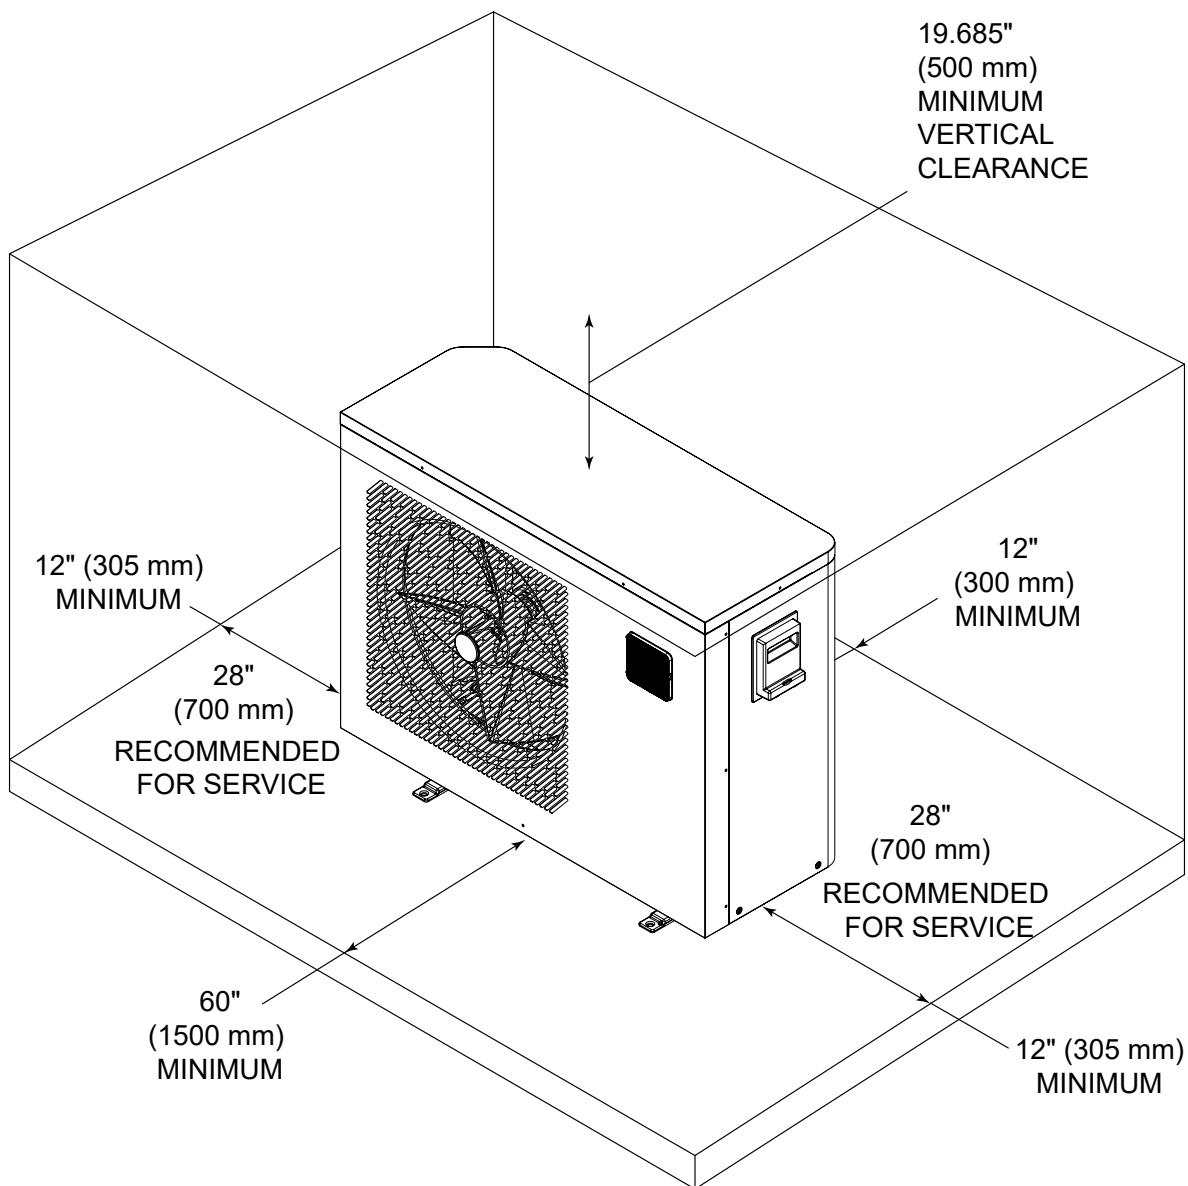

Figure 2. Installation Clearances
For unrestricted air intake and service access, position each side of the unit according to **Figure 2**.
- This unit requires specific clearance from walls, shrubbery, equipment, and other objects around the entire perimeter of the heater. See **"Figure 2. Installation Clearances"** on page 7, for more information. This allows for ample air intake. Ample clearance around the air outlet is required to prevent recirculation of air. We recommend not placing the unit underneath eaves, decks, or porches, as this causes recirculation of discharged air, thereby reducing the efficiency of the heater, or even stopping it.